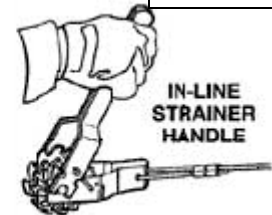

Figure 9
- ❑ Install in-line strainers near the middle of the fence line in order to achieve the same resistance factor in both directions. (Figure 9)